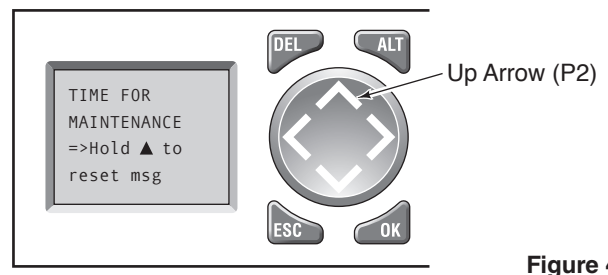

Figure 41
1. To reset the Counter, with the TIME FOR MAINTENANCE message displayed on the screen, press and hold Arrow Up (P2) for 4 seconds. The counter will reset and the message will erase. *See Figure 41.*